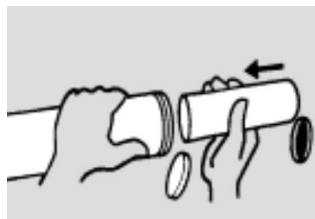

Fig. 1
3. Insert the open of the cartridge (not included) into the grease gun barrel (Fig. 1).